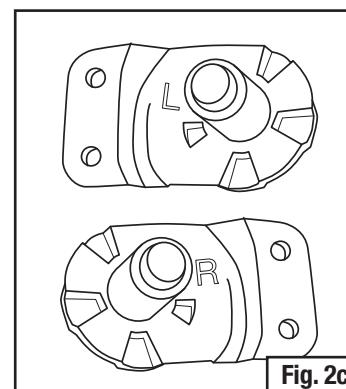
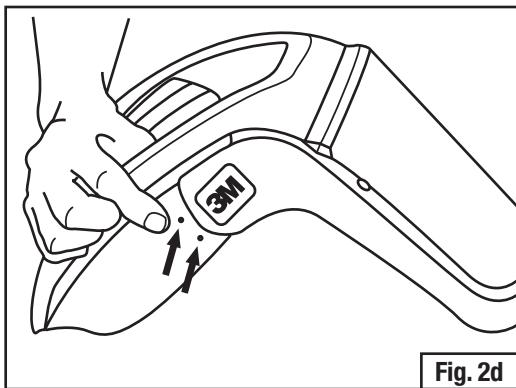
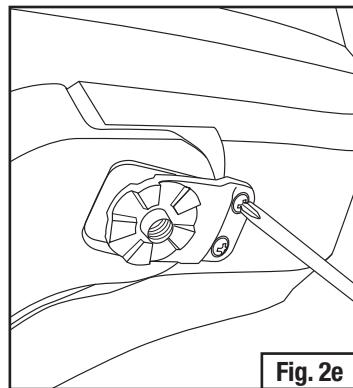

Fig. 2c
Fig. 2d
Fig. 2e
- Install the cam and pivot post onto the visor frame post. Ensure the cam and pivot posts are being installed on the correct side of the headgear by following the label on each cam and pivot post (L and R, for left and right as worn) (Fig 2c). Line up the screw holes on the cam and pivot post with the pilot holes on the headgear shell. If this is a new installation locate the earmuff attachment points on the outside of the headgear shell (Fig. 2d). Note on the M-400 and M-300 Series Headgear there are visible indents on the outside of the shell where the earmuffs attach. On the M-200, the indents may not be as visible on the outside of the shell. Use a pen or a screwdriver to gently push on the screw attachment points to start the hole (i.e. make an indent). This will make it easier to thread the screws into the shell. Install screws using an appropriately sized manual Phillips head screwdriver, and hand tightening until secure (Fig. 2e).